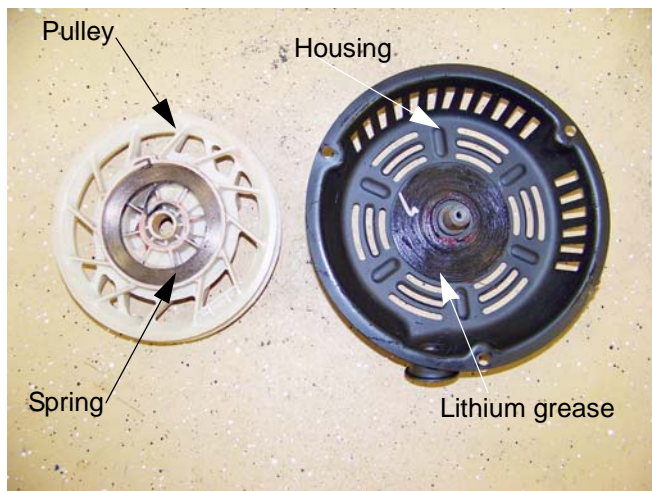

Figure 6.9
5. Carefully lift the spring and pulley out of the recoil housing. See Figure 6.9.